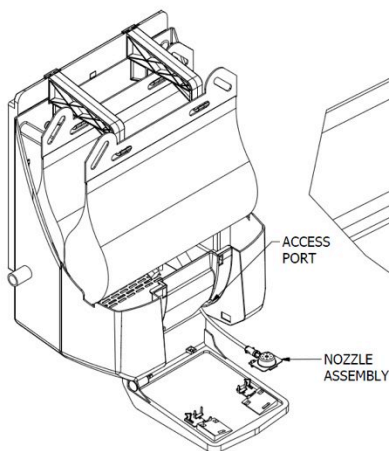

FIGURE 11
- A. With Lid Assembly removed and Tray Assembly in the open position, feed the first Nozzle Assembly (part of Fluid Cartridge Assembly) through the Access Port on the Housing Assembly. (Ref Figure 11)